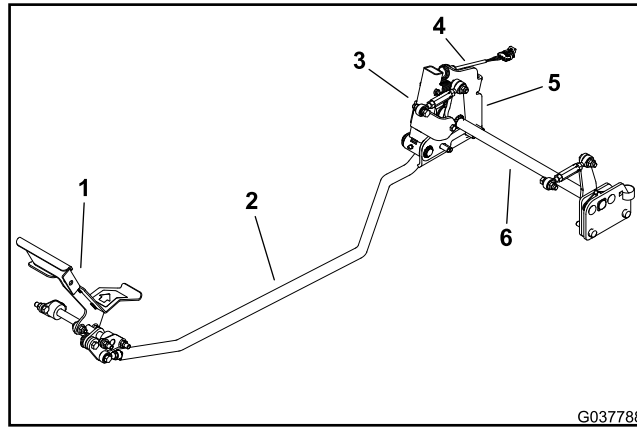

Figure 223
The traction neutral sensor is a normally open proximity sensor that closes when the traction pedal is in the NEUTRAL position. The sensor mounts to a neutral end plate (Figure 223). The sensing plate for the traction neutral sensor is the neutral arm.
5. Raise and support the operator seat. Locate the neutral sensor (Figure 223).